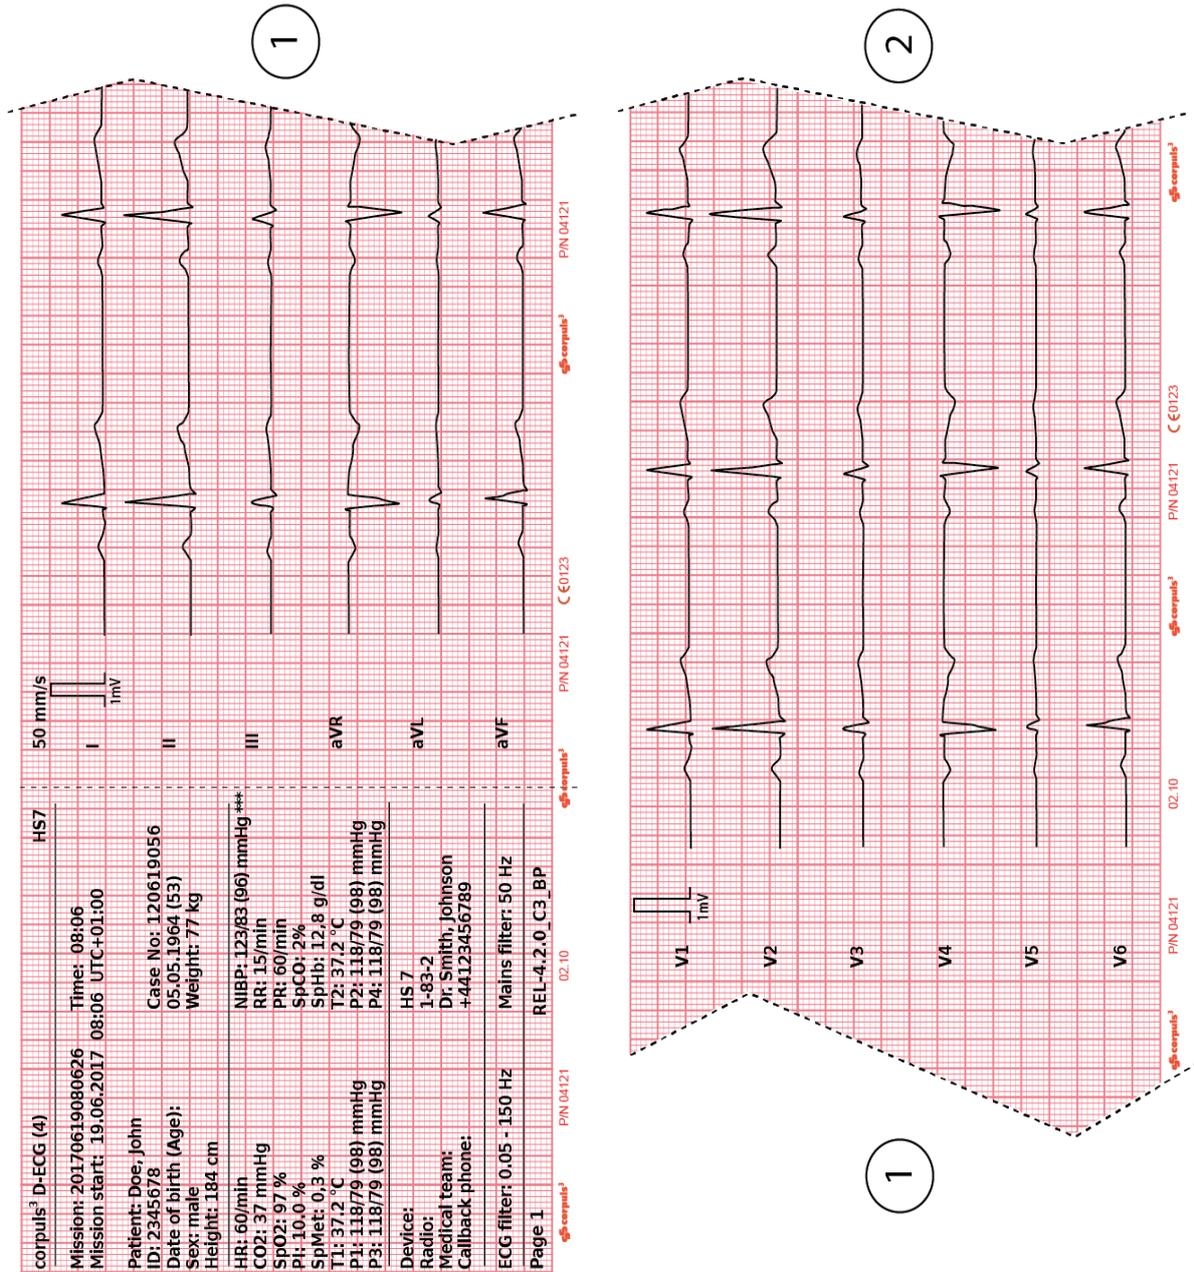

Fig. 6-12 Printout of 12-lead ECG (illustration may differ)
9. With the softkey [Print] the D-ECG is printed out for diagnosis (see Fig. 6-12 Printout of 12, page 117) and with the softkey [Send] it is sent e.g. to corpuls.mission LIVE.